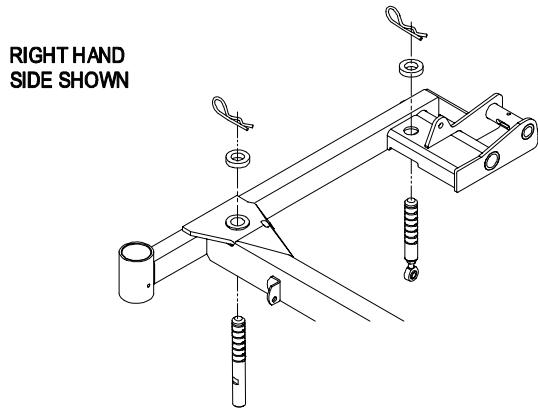

FIGURE 8
- d) Verify all hairpins are in the 3" deck height holes with the spacers under the hair pins. See Figure 8.